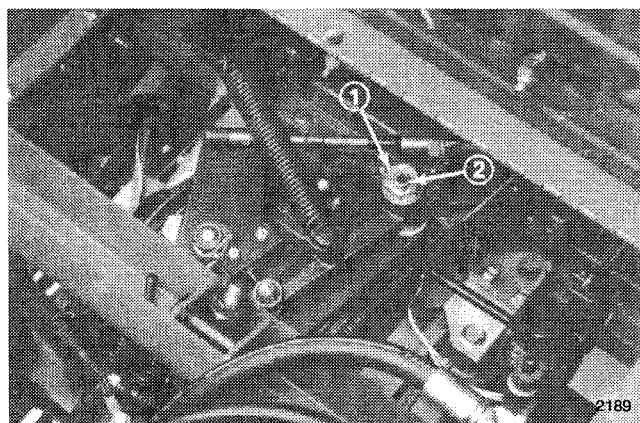

Figure 32
3. Loosen lock nut on adjustment cam (Fig. 32).
4. Start engine and rotate adjusting cam in either direction until wheels stop rotating (Fig. 32).
5. Stop engine and tighten lock nut to secure adjustment (Fig. 32).